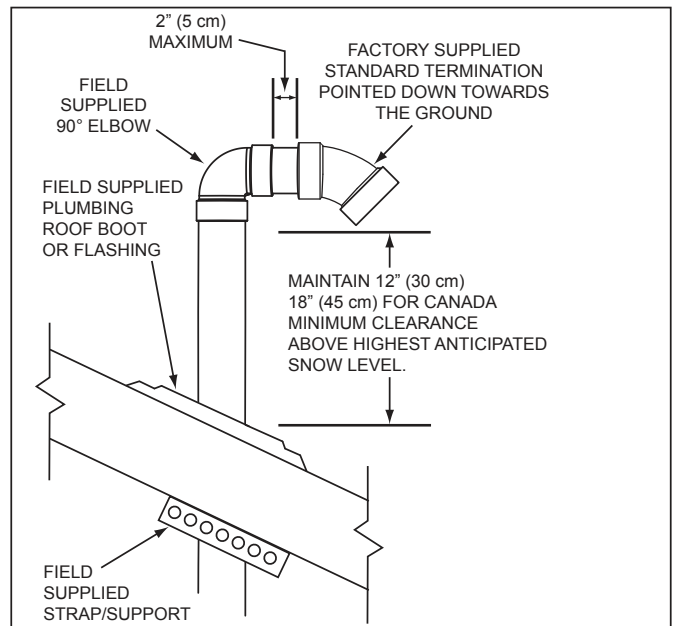
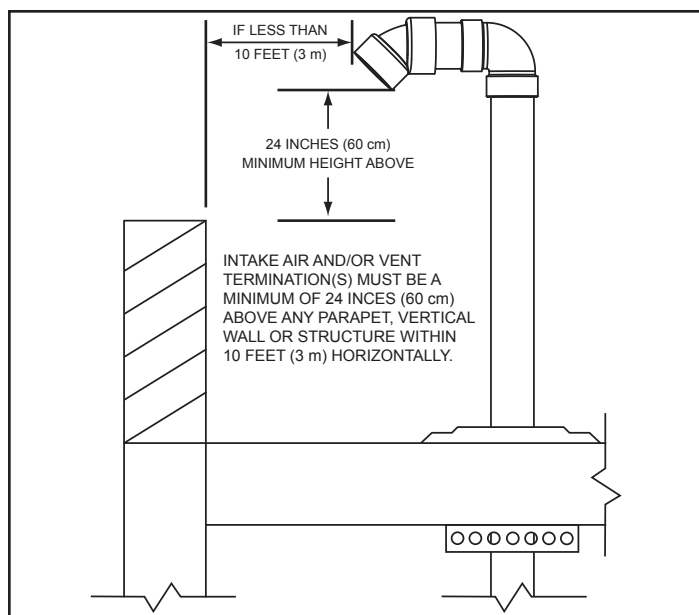
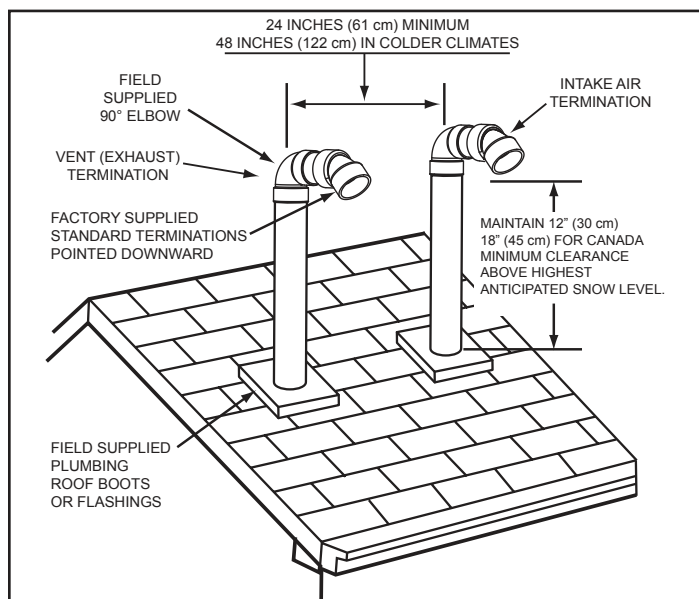

Figure 22. Vertical Termination(s) Installation
Figure 23. Vertical Termination Flat Roof Clearance - Intake Air and/or Vent (exhaust)
Figure 24. Vertical Termination - Direct Vent
2. If installing only the vent (exhaust) piping in a Power Vent configuration vertically through the roof; ensure that all exterior vertical clearance requirements shown in *Figure 22* (page 26) and *Figure 23* (page 27) are being maintained. These clearances and those cited by local and national codes must be maintained.
Note: On flat roof installations the vent termination must be a minimum of 24 inches (60 cm) above any parapet, vertical wall or structure within 10 feet (3 m) horizontally. See *Figure 23*.
3. If installing both intake air and vent piping in a Direct Vent configuration vertically through the roof; ensure that all exterior vertical clearance requirements shown in *Figure 22* (page 26) and *Figure 23* (page 27) are being maintained. These clearances and those cited by local and national codes must be maintained.
Note: On flat roof installations the intake air and the vent terminations must be a minimum of 24 inches (60 cm) above any parapet, vertical wall or structure within 10 feet (3 m) horizontally. See *Figure 23* (page 27).
- The vent termination must be oriented facing downward as shown in *Figure 22* and *Figure 23* (page 27).
- The bottom edge of vent termination must be a minimum of 12 inches (30 cm), 18 inches (45 cm) in Canada, above average or expected snow level as shown in *Figure 22* (page 26).
- The intake air and vent pipes must penetrate the same side of the roof as shown in *Figure 24* (page 27).
- The intake air and vent terminations must be oriented facing downward and in the same direction as shown in *Figure 24* (page 27).
- The intake air and vent terminations must have a minimum separation of 24" (61 cm) measured on center line as shown in *Figure 24* (page 27). In colder climates this separation should be increased to at least 48 inches (122 cm).
- The bottom edge of the intake air and vent terminations must be a minimum of 12 inches (30 cm), 18 inches (45 cm) in Canada, above the average or expected snow level as shown in *Figure 22* and *Figure 24* (page 27).
- The distance between the closest vent and intake air terminations must be a minimum of 24 inches (61 cm) as shown in *Figure 24* (page 27). In colder climates this separation should be increased to at least 48 inches (122 cm).
8. Suspend the pipe(s) through center of hole using field supplied metal strapping or equivalent support materials as shown in *Figure 22* (page 26).
9. Slide a roof boot or equivalent flashing over the pipe and secure roof boot or equivalent flashing to roof and seal around the flashing as shown in *Figure 22*, *Figure 23* (page 27), and *Figure 24* (page 27).
10. Install the factory supplied intake air and/or vent termination(s) using field supplied pipe and one field supplied 90° elbow as shown in *Figure 22* (page 26). The short section of pipe that connects between the field supplied 90° elbow and the factory supplied termination must not be excessive in length. The exposed portion of this pipe shall be no more than 2 inches (5 cm).